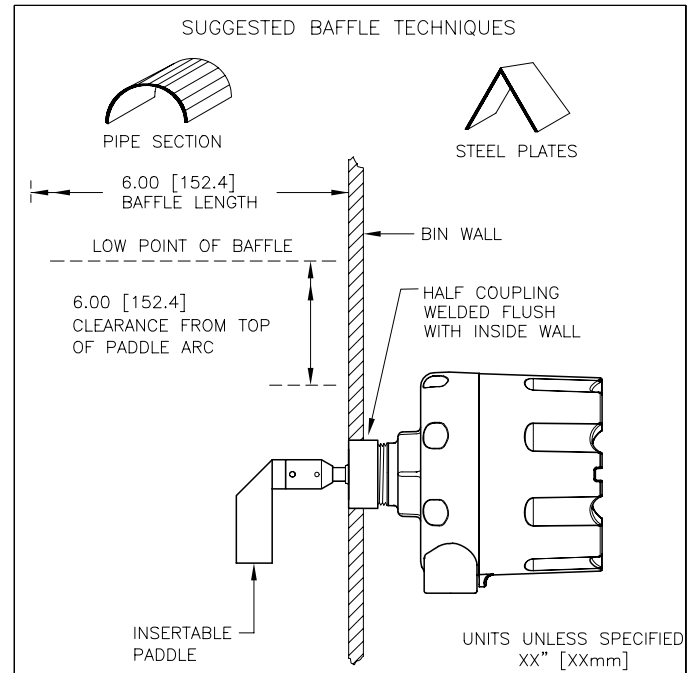

Figure 2
Protective Baffles: (See Figure 2)
- 1) Coupling Mounting** - Cut a hole into the vessel that corresponds to the outer diameter of pipe coupling. In side mount applications, position a half-coupling flush with the inside of the vessel and weld into place. In top mount applications, position a full coupling halfway into the vessel and weld into place. After greasing the mounting threads with anti-seize compound, thread the **SafePoint®** into the coupling and position the conduit entrance to minimize moisture infiltration. Attach paddle if applicable. (See Figure 2)